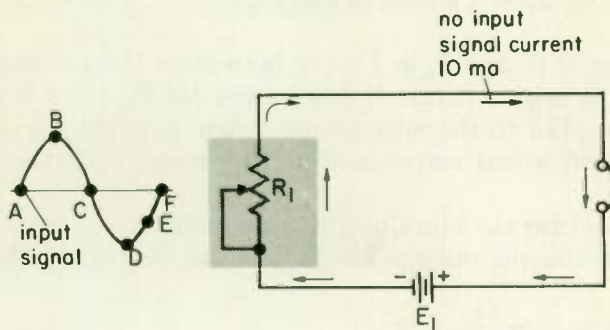

Fig. 17
1. A tube or transistor acts like a (a) _____, represented in Fig. 17 by (b) _____. When an a-c signal is applied to the input of a tube or transistor, the resistance of the tube or transistor (c) _____.
2. In Fig. 17 the current through the headphones when there is no input signal is 10 ma. When the sinusoidal input signal shown is applied, the headphones current varies a maximum of 4 ma from the no-input-signal value. At point *A* of the input signal, the headphones current in milliamperes is (a) _____ ma; at point *B*, (b) _____; at point *C*, (c) _____; at point *D*, (d) _____; and at point *F*, (e) _____. At point *E* the current is approximately (f) _____ milliamperes.